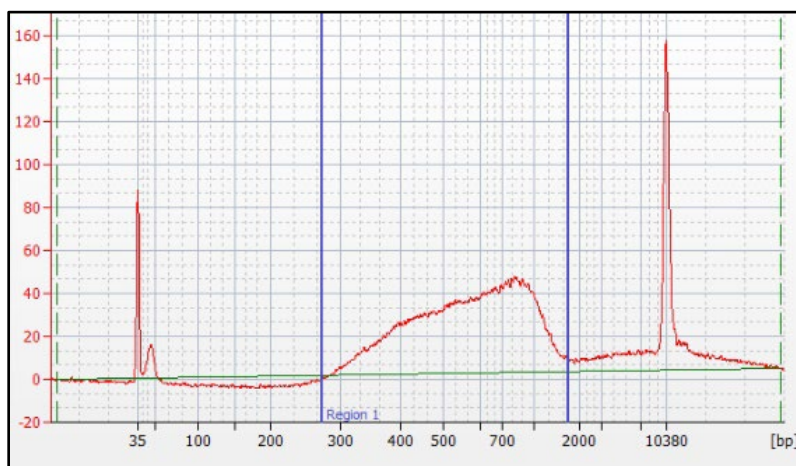

Figure 19. An electropherogram example from a library quantified using the Agilent 2100 Bioanalyzer. Library was prepared from GM22601 cells.
4. Use the Bioanalyzer results to determine library quality and average size for qPCR. An example of a typical Bioanalyzer profile for an NGS library that has been successfully purified and size selected is shown in Figure 19.